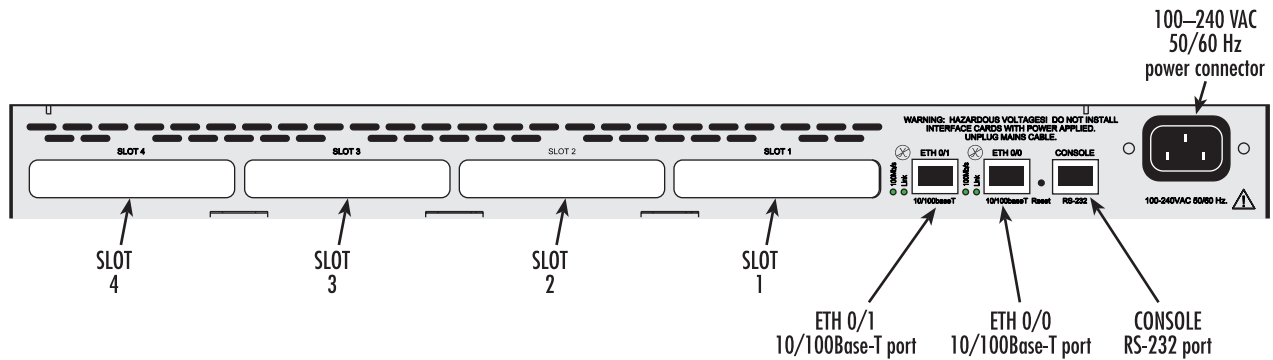

Figure 69. SmartNode 2400 connectors
1. Installing the 10Base-T or 100Base-T Ethernet cables into ports *ETH 0/1* and *ETH 0/0* (see figure 69) (see “Installing the Ethernet cables” on page 113).
1. Insert the barrel type connector end of the AC power cord into the 100–240 VAC power connector (see figure 69).